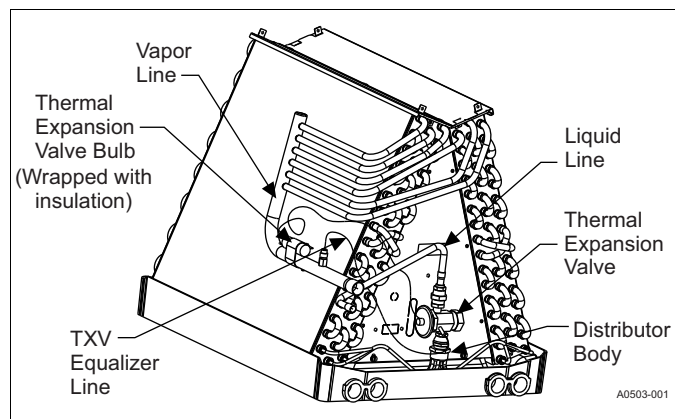

FIGURE 6: TXV Installation
5. Install the TXV to the distributor assembly by hand tightening, and then turn fitting an additional 1/4 turn to seal. **Do not over tighten fittings.** See Figure 6.